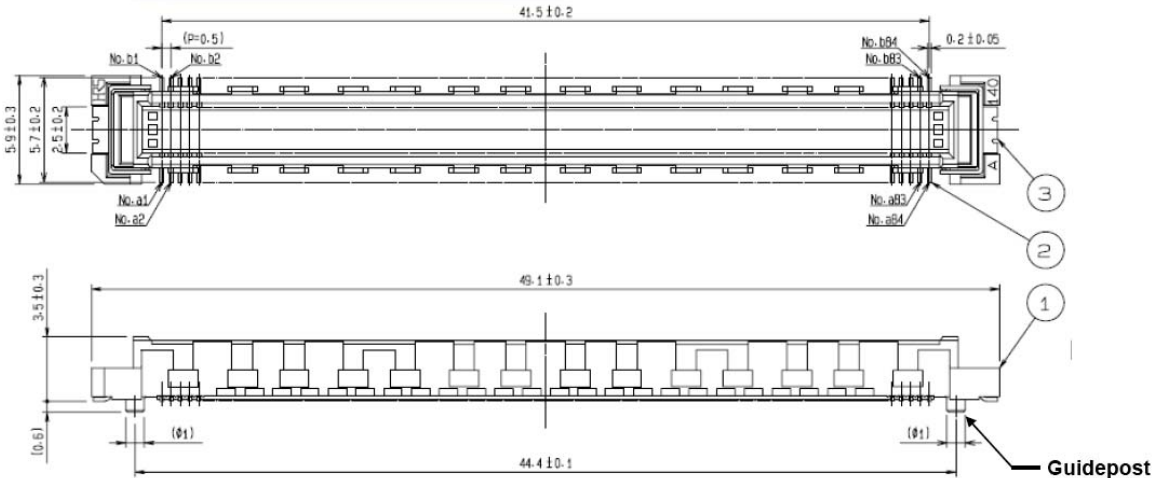

Figure 12: Hirose FX10A-168P-SV(83) Header Connector Assembly
The host line card electrical connector is the Hirose FX10A-168P-SV(83) header connector assembly[N3] illustrated in Figure 12. Pin orientation is also indicated in Figure 12. The Hirose FX10B-168P-SV(83) header is also an option for the host line card electrical connector.